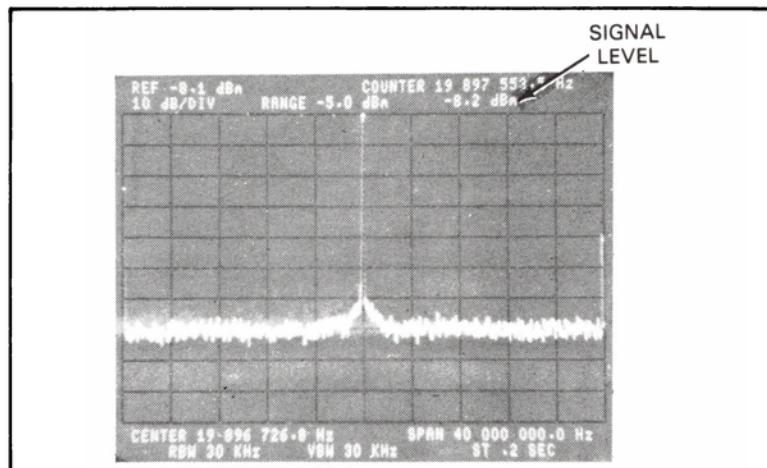

Figure 7-24. Mixer Conversion Loss Test Adjustment
- j. Signal level must be \geq -10 dBm (See Figure 7-24). Record the signal level on the Performance Test Record card.